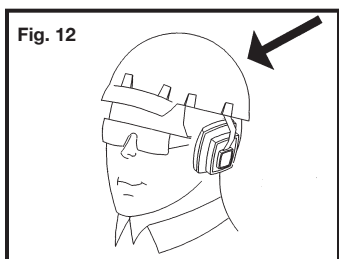

Fig. 12
19. **Operator and bystanders wear hard hat** to safeguard against possible injuries. Fig. 12.